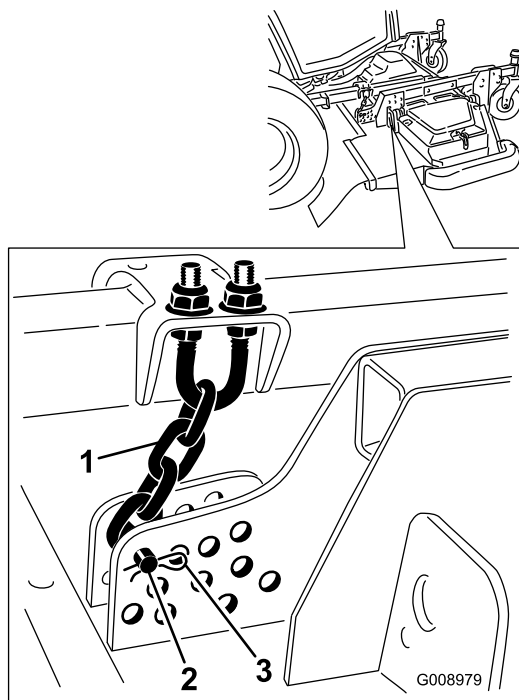

Figure 25
5. Remove the hairpin cotter and clevis pin securing the height-of-cut chains to the rear of the cutting unit (Figure 25).